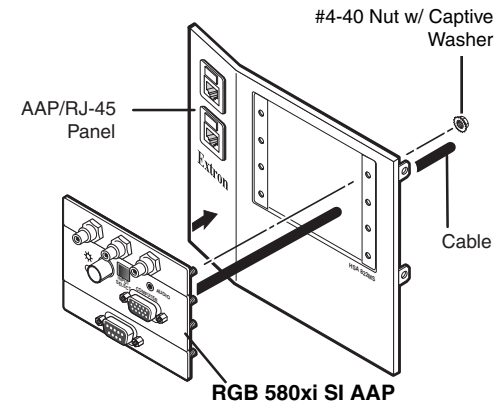

Figure B-4 — Mounting an AAP device
- f. Remove the AAP(s) that you intend to keep from the AAP/RJ-45 panels by unscrewing the nuts on the rear of the AAP/RJ-45 panels that secure the AAPs in place (figure B-4).